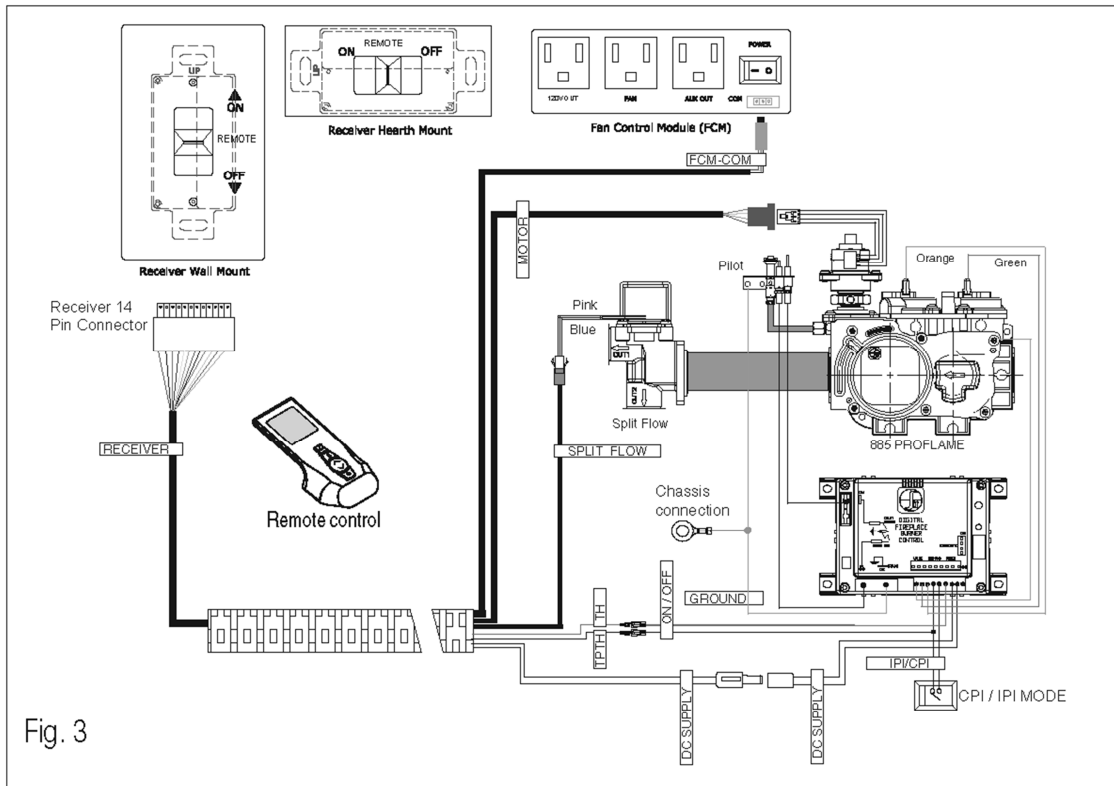

Fig. 3
3. Connect the pilot, control valve and remote system as indicated in fig. 3. (DFC with Remote System & Wall AC Adaptor)
- to Fig. 3 for Proflame system with the electrical modulation, and/or the fan control module, and/or the split flow valve